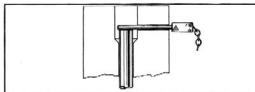

Fig. 8—Installing Tubing to Proper Depth
2. Place new compression coupling nuts on the tubing. Dip end of tubing to be flared in hydraulic brake fluid. This lubrication results in a better formation of the flare. Loosen the clamping nuts on the flaring tool, KMO J-1280-1, and insert finished end of the tubing in the channel of the die until it bears against the stop pin, Fig. 8.